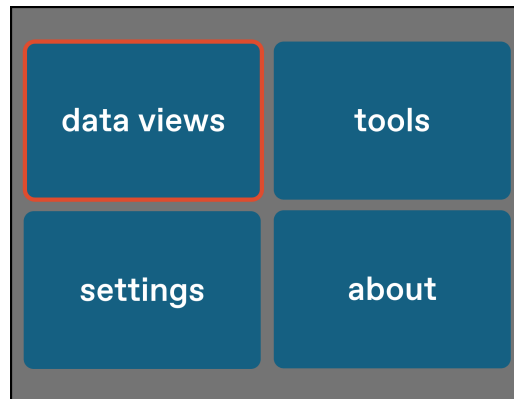

Figure 20: Pump control start screen
2. Push the button "data views" on the pump control start screen (Figure 20).